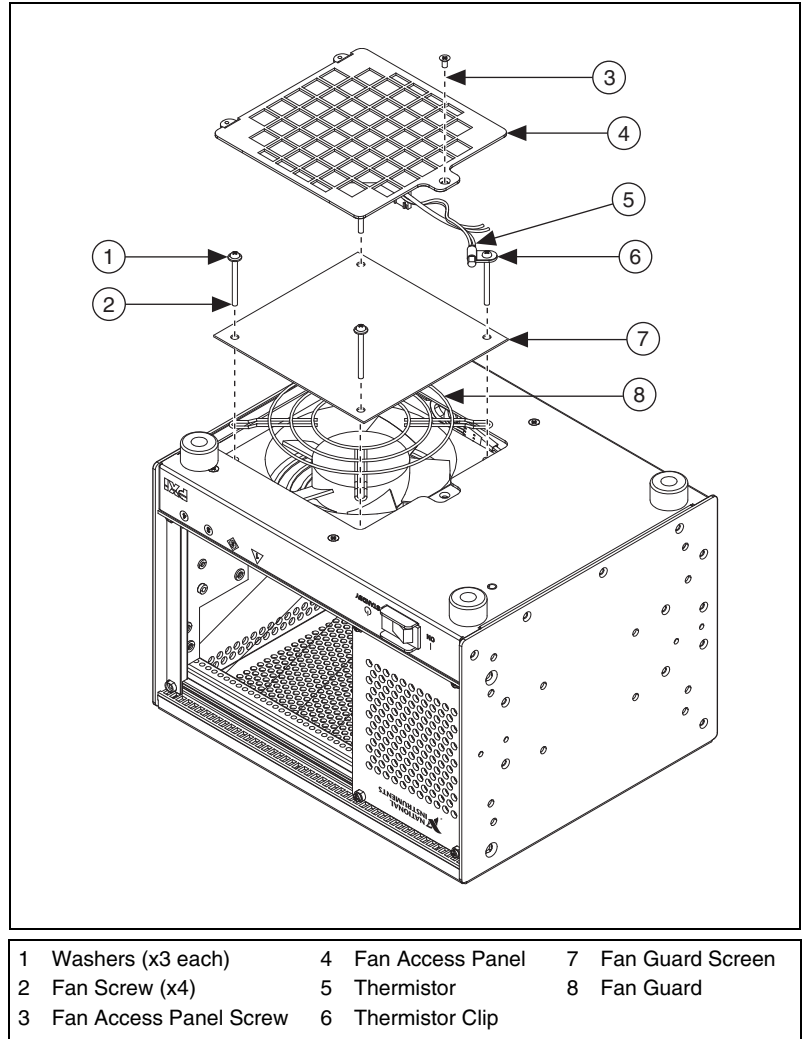

Figure 5. PXI and PXI Express Chassis Part Locations (Chassis Shown Upside Down)
Refer to Figure 5 and the following steps for installation and removal instructions.
Figure 5 shows the parts you must remove to access the fan. Refer to the following steps for installation and removal instructions.
2. Remove the four fan screws, shown in Figure 5, that fasten the fan. Be careful not to lose the screws or washers. (If you lose a screw, replace it with an M3 × 0.5 × 35 mm pan head Phillips screw.)